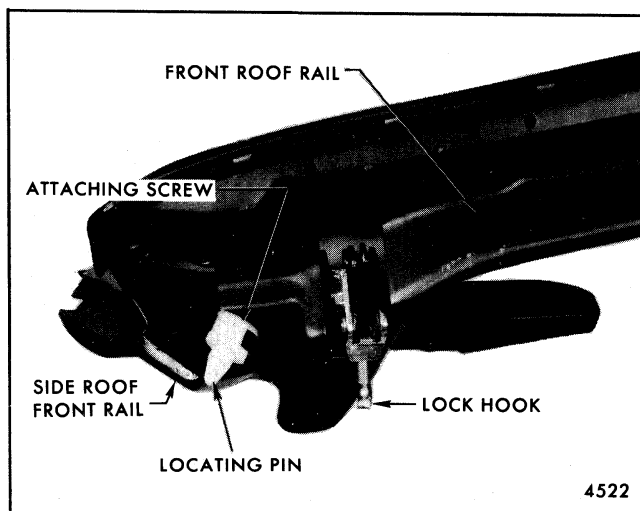

Fig. 8-96-Front Roof Rail Locating Pin
A locating pin, of plastic construction, secures to the front of each side roof front rail by an attaching screw (Fig. 8-96).
2. Remove attaching screw and remove locating pin (Fig. 8-96).